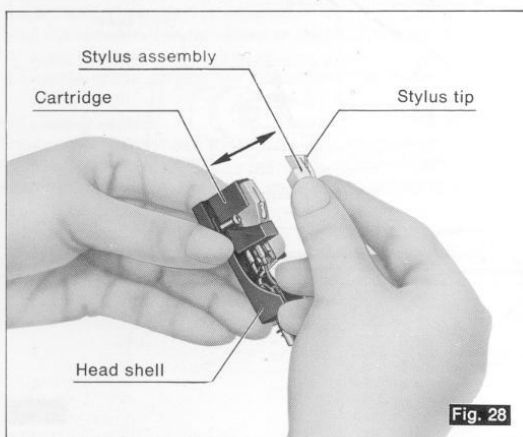

Fig. 28
⑧ Replacement of the stylus (See Fig. 28.)